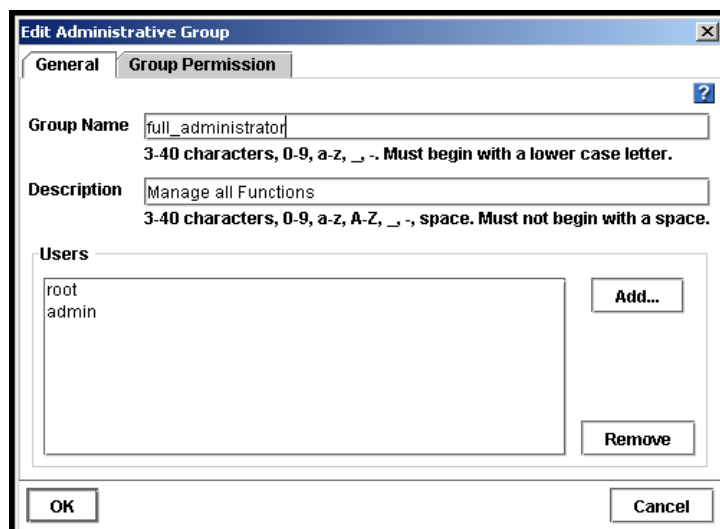

Figure 106. Editing an Administrative Group
3. Click Edit. The Edit Administrative Group window opens, shown in Figure 106.